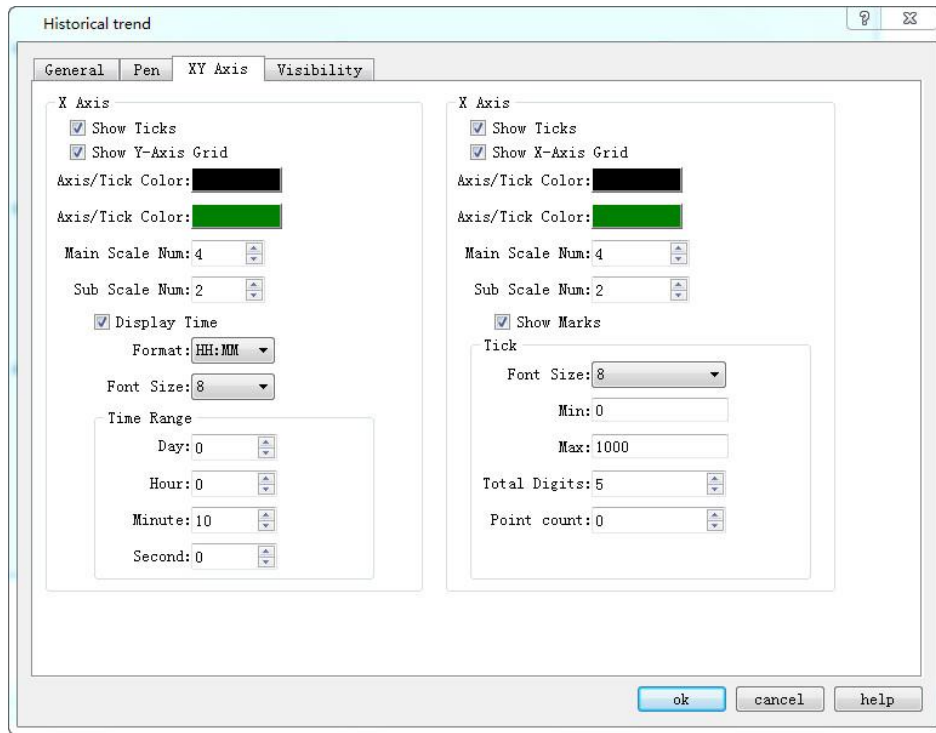

Figure 4-55 XY Axis tab of Historical Trend
3. The "XY Axis" page of the historical trend chart is shown in Figure 4-55.